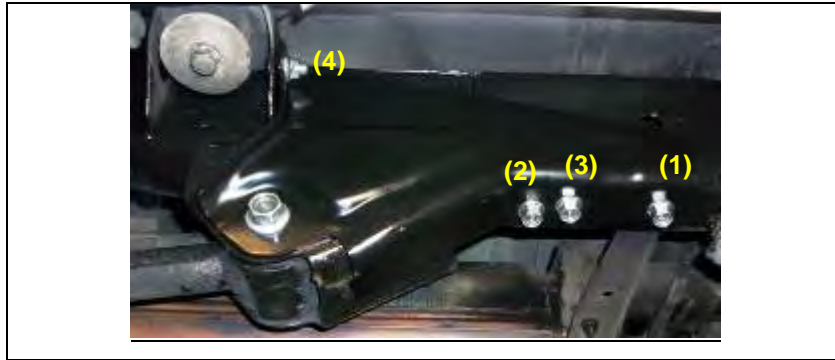

Figure 24
17. Torque the bolts in the sequence and to the specifications shown in Figure 24.